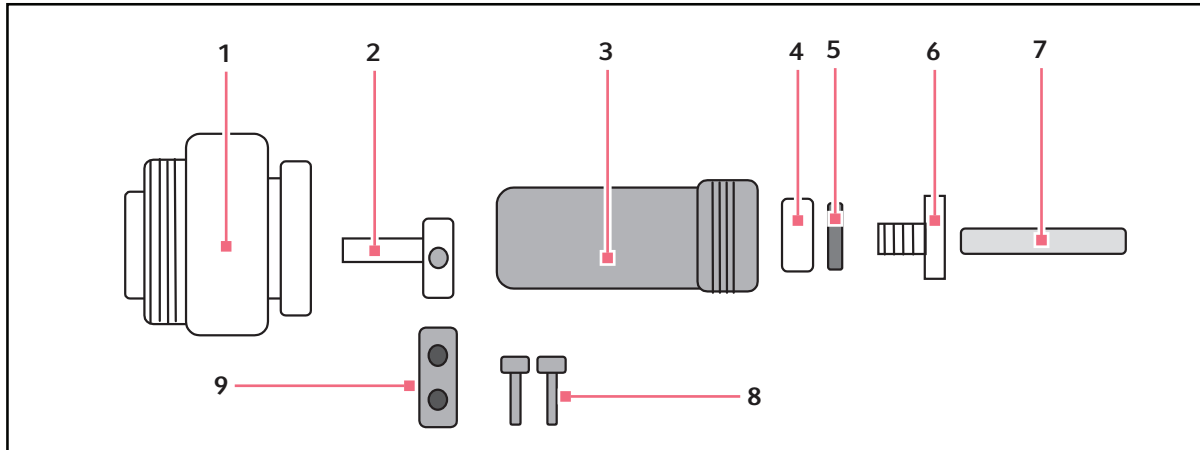

Fig. 8-6: Internal AC Moisture-Proof Plug
The AC socket (see Fig. 8-6 on p. 71), with cover and mating plug (supplied) is designed to be used in humid environments. To use the socket, you have to connect the special male plug (supplied with the unit) to the equipment that you use in the Innova 42/42R. If your equipment has a detachable power cord, you may want to obtain a different power cord to be used solely with the Innova 42/42R shaker.
1. Connect the power cord to the electrical plug. Slide the power cord through the plastic nut, washer, rubber grommet and the main body (see Fig. 8-6 on p. 71).